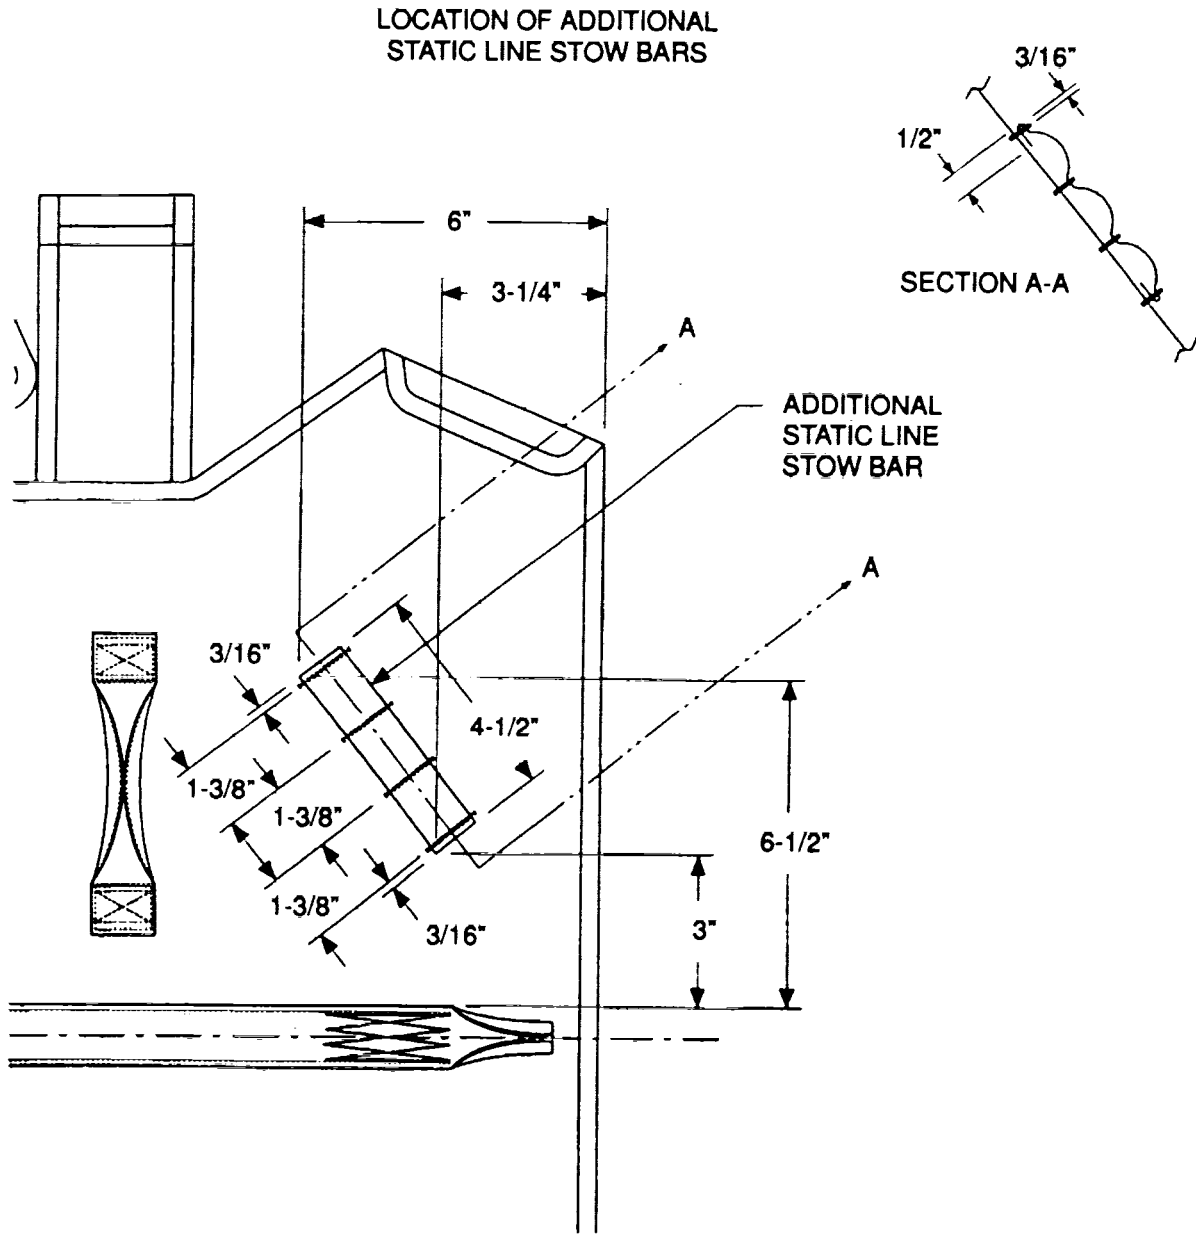
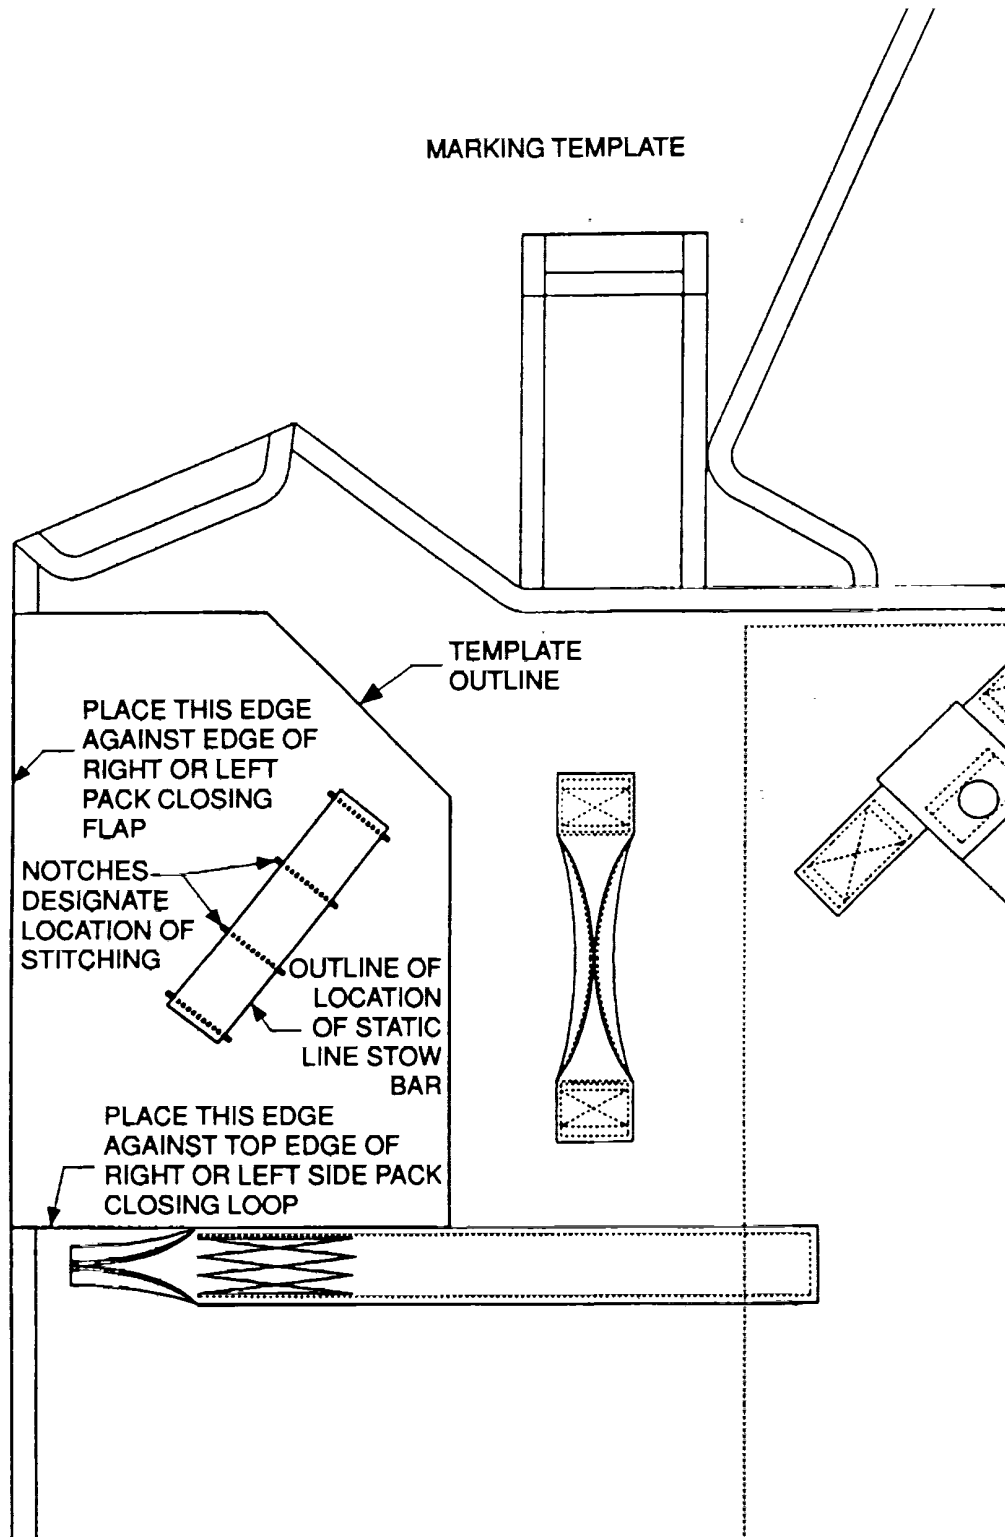
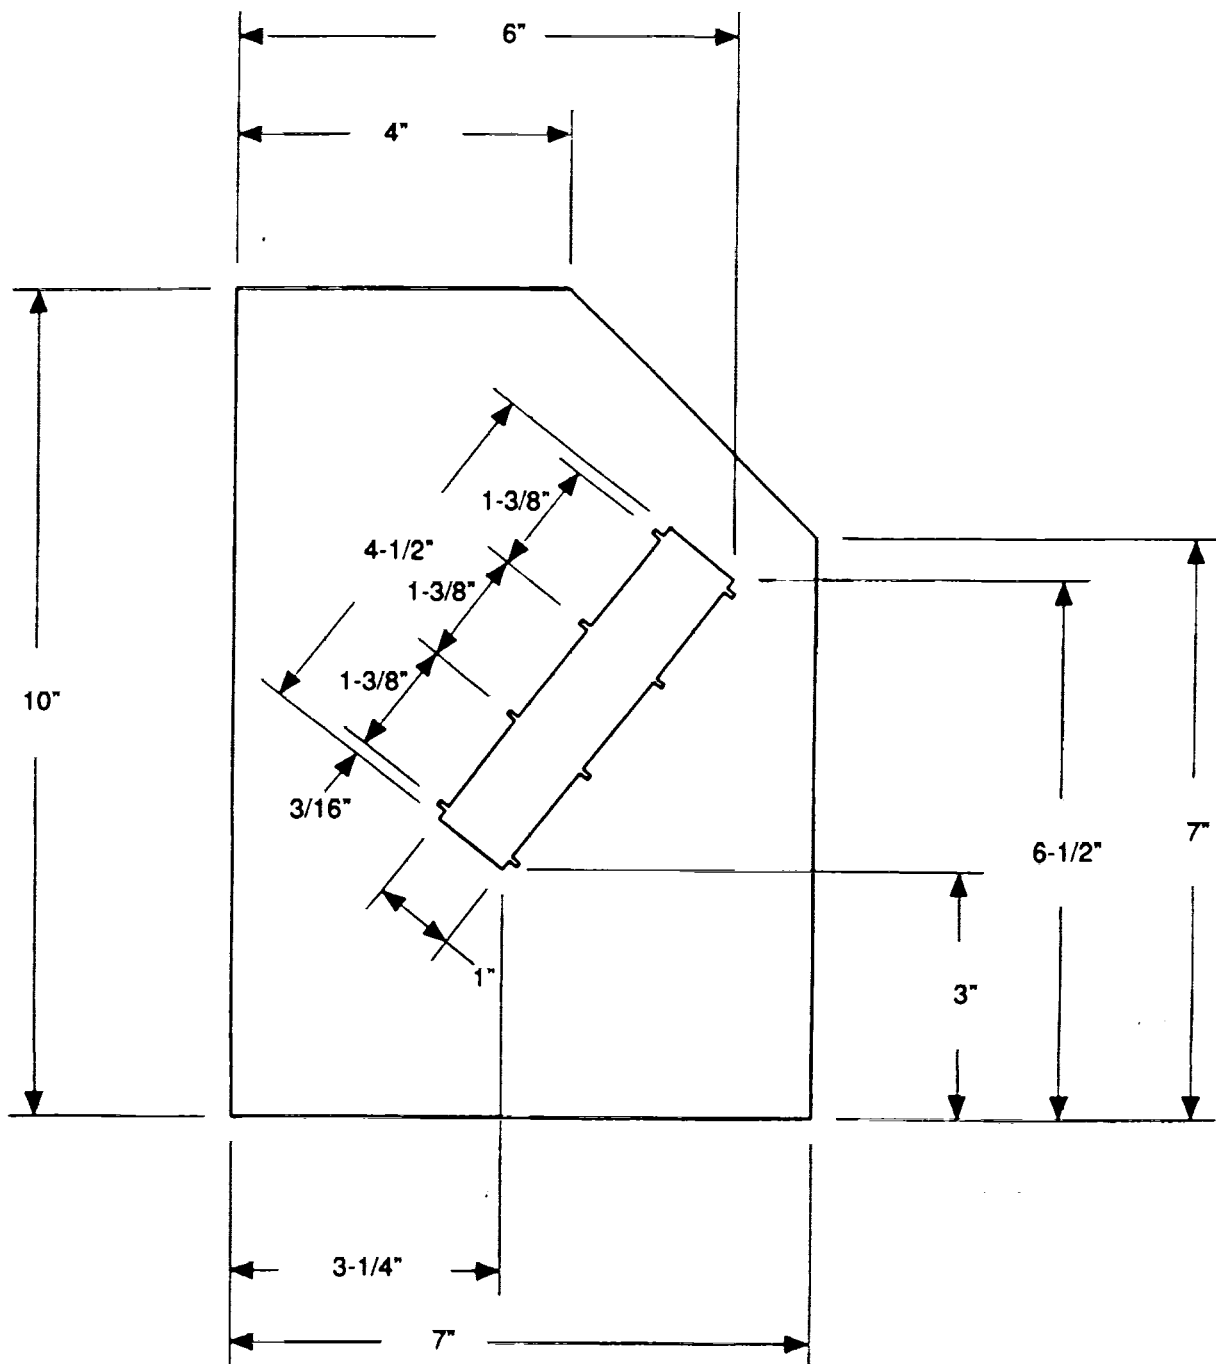

Figure 2.
Figure 3.
Figure 4.
c. Mark stow bar and stitching locations as follows (figure 2): Mark bottom inside corner 3' up from the pack closing loop and 3-1/4" in from the edge of the pack tray. Mark top inside corner 6-1/2' up from pack closing loop and 6" in from the edge of the pack tray. Draw a straight line connecting the two points. Mark 3/16" in from each end point and 1-3/8" in from these points to locate the four rows of stitching. An alternative method is to use the template shown in figure 3 to locate the stow bar and stitching. The template dimensions are shown in figure 4.